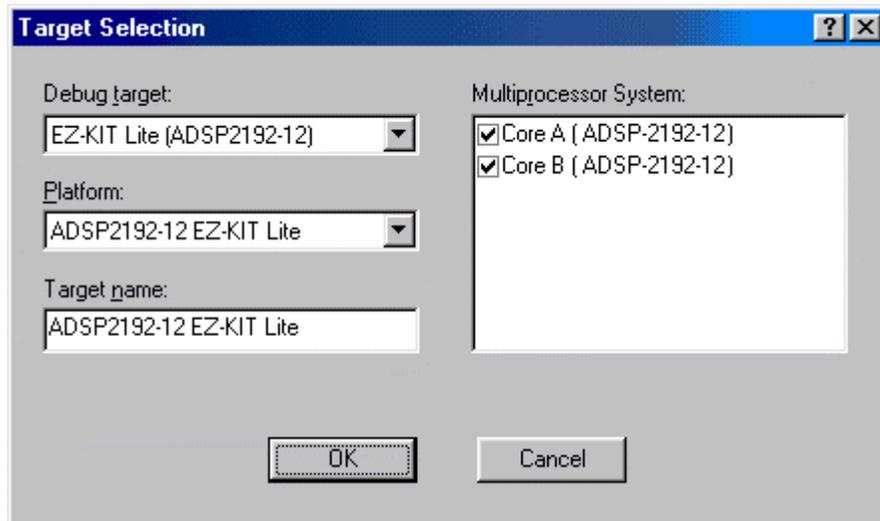

Figure 3-1: VisualDSP++ Debugger *Target Selection* dialog box.
- The **Target Selection** dialog box will appear as shown in figure 3-1.